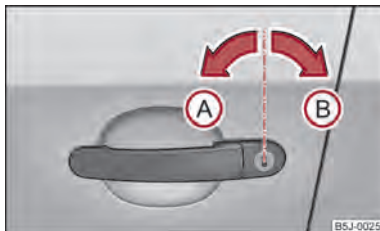

Fig. 12 Turning the key for unlocking and locking the vehicle
- Turn the key in the locking cylinder of the driver's door in the direction of travel (unlock position) **(A) ⇒ fig. 12.**
- Turn the key in the locking cylinder of the driver's door in the opposite direction of travel (lock position) **(B) ⇒ fig. 12.**